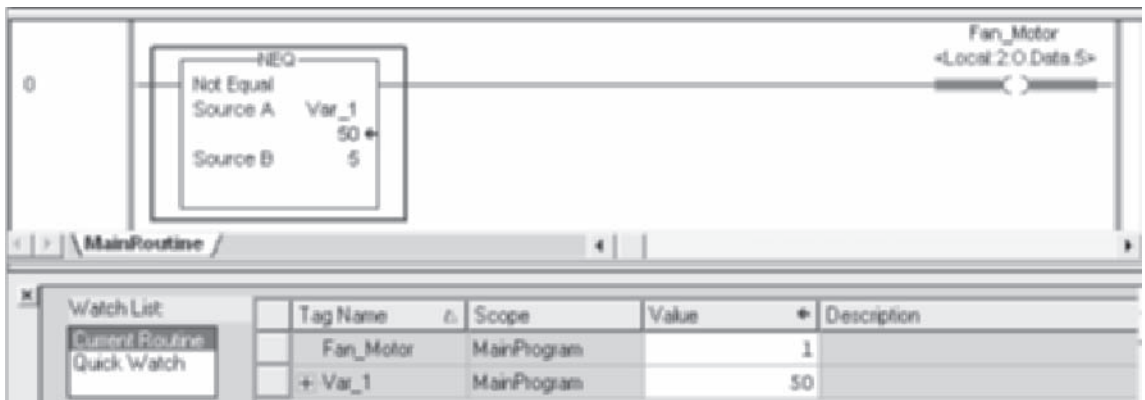

Figure 7-19 Use of a NEQ instruction.
The NEQ instruction is used to test two values for inequality. The values tested can be constants or addresses that contain values. An example is shown in Figure 7-19. If Source A (Var_1) is not equal to Source B (5), the instruction is true and the output Fan_Motor (<Local:2:0.DATA.5>) is energized.